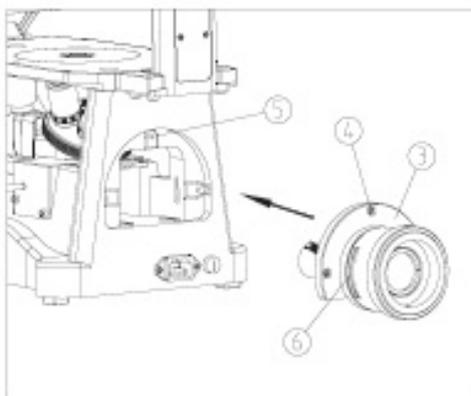

Figure 7
- (2) Insert the fluorescence connector 3 to the fluorescence hole to make the screw 4 point to thread 5, and tight 3 screws with M4 spanner. (Fig.7)